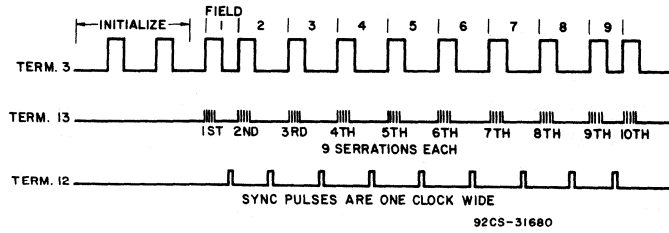

Fig. 9 - Out-of-sync detector test for confidence of coincidence field count at terminal 3 (applies to test referenced to Note 23).
- This test checks the operation of the out-of-sync detector by applying out-of-phase sync pulses to terminal 12. The CA3202E will count eight fields before resetting to the sync pulse (see Fig. 9).